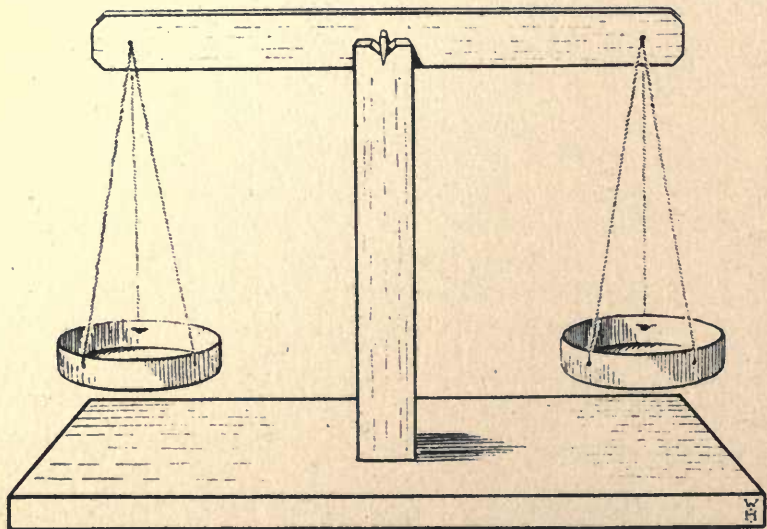

FIG. 72.
there are generally these parts: (1) a balancing arm, generally called the beam; (2) an upright standard on which the beam is supported; (3) two scale pins, and chains (or strings) to suspend them; (4) a base board to which the upright standard is fixed. Fig. 72 shows the sort of thing we mean.